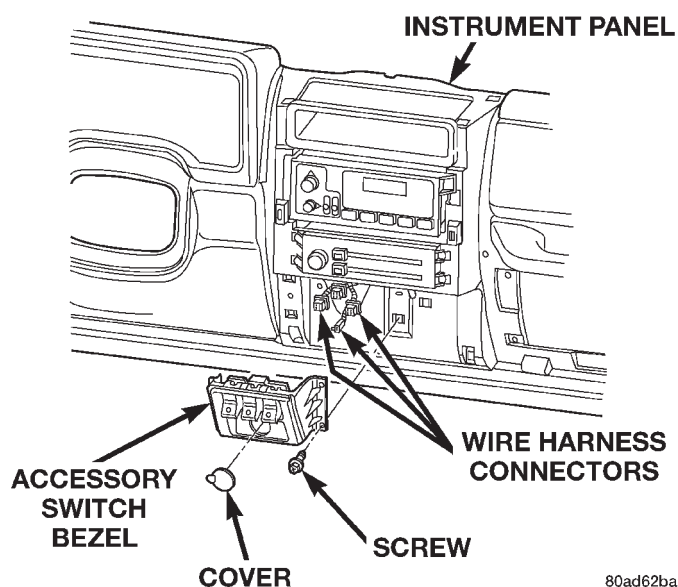

Fig. 5 Accessory Switch Bezel Remove/Install
- (1) Disconnect and isolate the battery negative cable.
- (2) Remove the center bezel from the instrument panel. See Instrument Panel Center Bezel in Group 8E - Instrument Panel Systems for the procedures.
- (3) Remove the four screws that secure the accessory switch bezel to the instrument panel (Fig. 5).